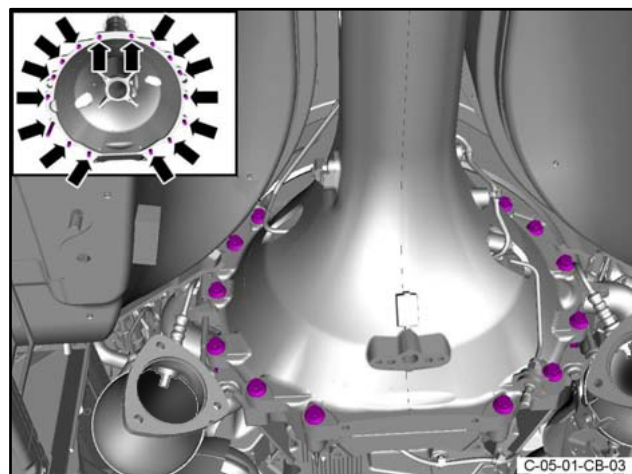

Figure 34
61. Remove the 16 bolts that attach the torque tube to the engine and remove the torque tube (refer to Figure 34).